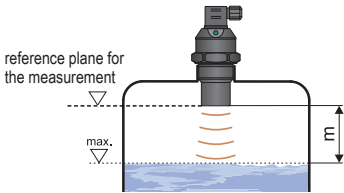

Fig. 2: Dead zone of the device
- d) The reference plane for the measurement is the lower edge of the transducer (Fig.2). In compliance with the measuring principle, no signals **reflected in the area directly below the device** (dead zone) can be evaluated. The dead zone (Fig. 2) determines the minimum distance possible between the device and the highest level. The minimum distances to the medium are listed in the chapter "Technical specifications".